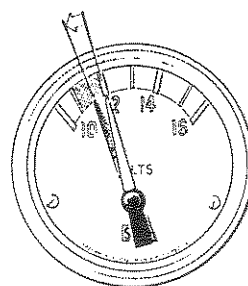

Figure 6. Voltmeter Gauge
6. Proper glow plug function is indicated by voltmeter drop when Preheat button is depressed. (See Figure 6). This drop will be slight but discernible. If no voltage drop is noted, it may indicate defective glow plugs or a faulty preheat circuit (check for loose connection).